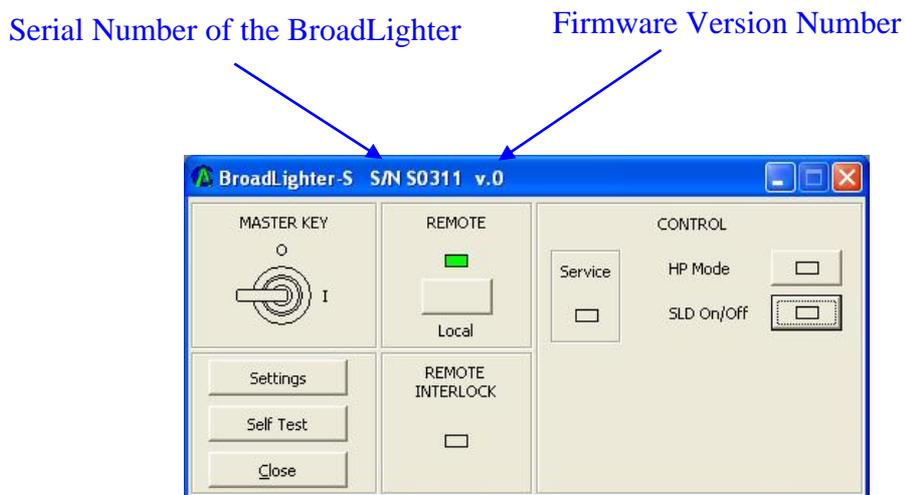

FIGURE 4.3 Example of the Program Window.
3. Select the name of the COM port in the drop-down list to which the BroadLighter has been connected and then click on the OK button. The program window like that shown in Figure 4.3 will appear on the screen of your computer, indicating that the BroadLighter is now under remote control. Note that in addition to the features and functions necessary to control your BroadLighter, the program also shows the current number of the firmware version (which is being used in your BroadLighter) and the serial number of the instrument.
The features shown in Figure 4.3 are used to do the following:
Once the program has been run (see the previous section on how to do this), the window of the program as shown in Figure 4.3 will appear on the screen of your computer. As you can see from the figure, the features in the program window are grouped and arranged exactly the same as those on the front panel of the BroadLighter.